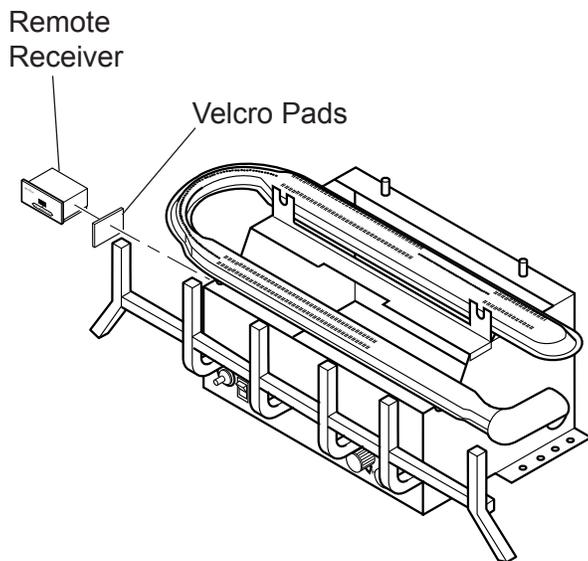

Figure 17 - Installing Remote Receiver
6. Stick velcro pads with self-adhesive backing to bottom of remote receiver and to the left side of the unit. See Figure 17.